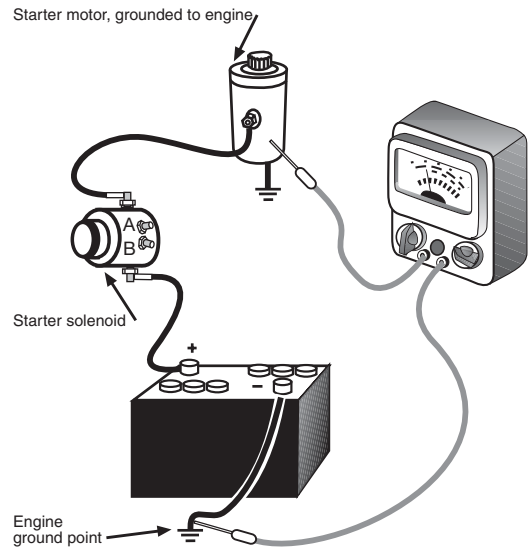

Figure 6-12. Starter circuit voltage-drop test—Step 4.
*Step 4.* Finally, we'll check for a voltage drop at the end of the run, at the starter motor itself. Hook up the meter as shown in Figure 6-12 and turn the key to the crank position. Your voltage-drop reading should be less than 0.3 volt. Again, if the reading is above this, either a connection is bad at the engine or negative battery post or the cable is undersized—it should be the same size as the main positive-feed cable.